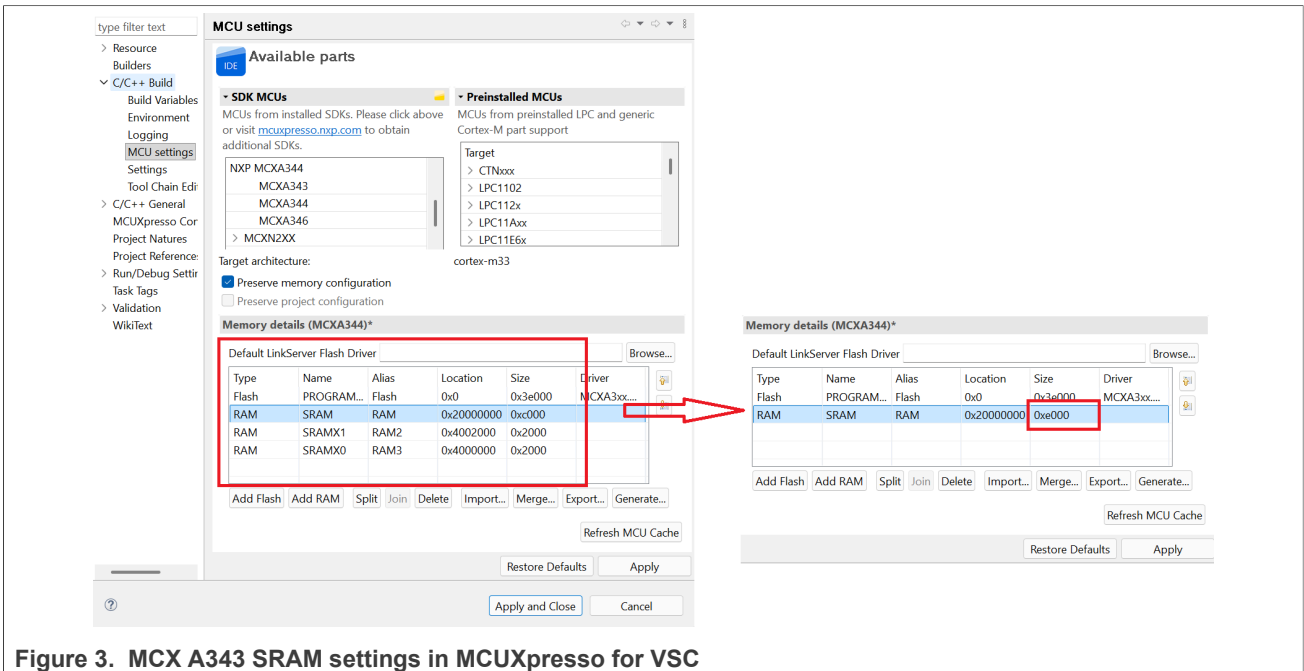

Figure 3. MCX A343 SRAM settings in MCUXpresso for VSC
- For MCX A343, as shown in Figure 3: